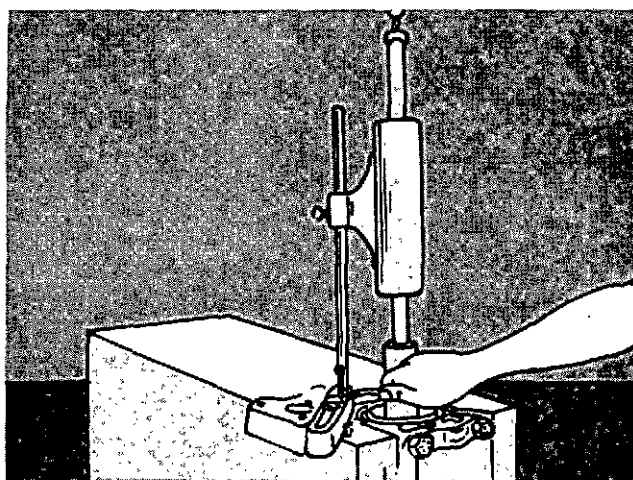

Fig. 1-41. Install The Torsion Bracket To The Cylinder Block.
4. Fasten the torsion bracket to the end of the cylinder block with a capscrew and washer, Fig. 1-41.